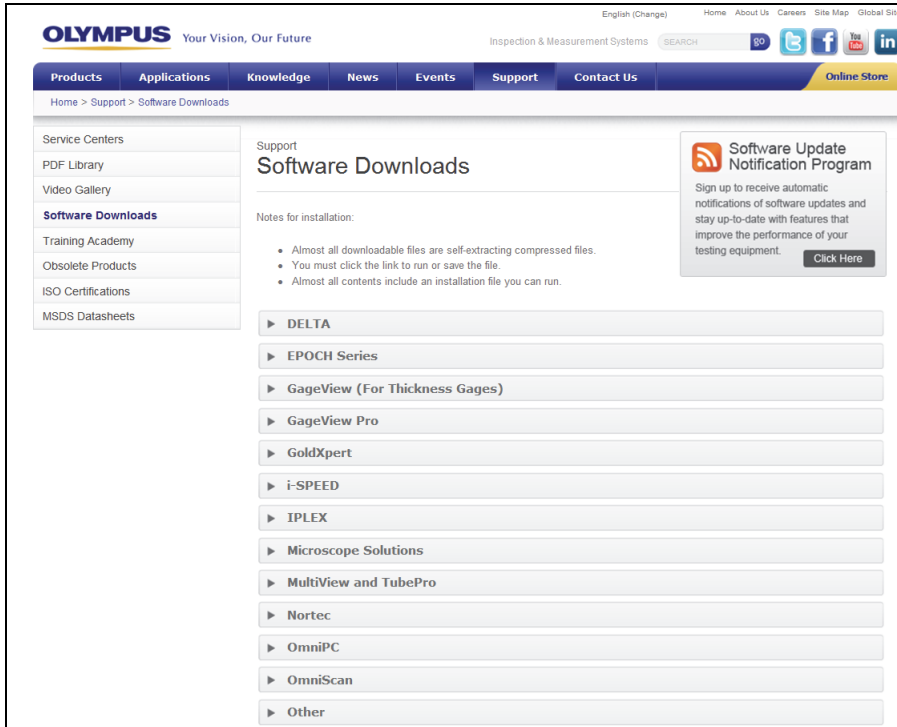

Figure 4-1 Selecting Software Downloads on the Support menu
2. On the **Support** page of the Olympus website, on the menu on the left, click **Software Downloads** (see Figure 4-1 on page 64).